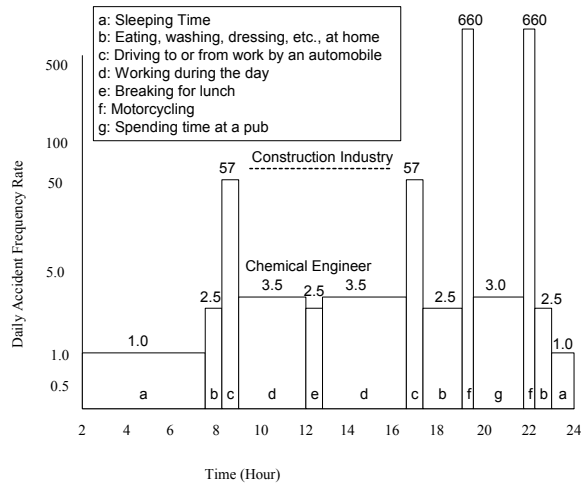

Figure 1. Daily Death Risk Exposure for a Working Healthy Adult
- RBT methods can be classified into risk management that includes risk assessment/risk analysis and risk control using failure prevention and consequence mitigation, and risk communication as shown in Figure 1 (next viewgraph).
- Figure 1 (next slide) illustrates risk exposure during a typical day that starts by waking up in the morning and getting ready